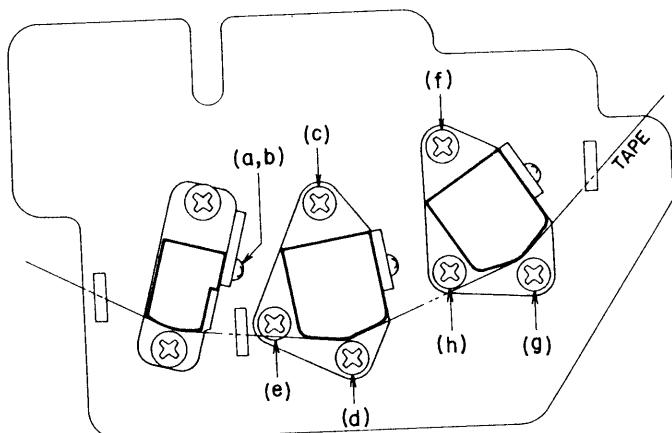

Fig. 10
1. HEAD HEIGHT ADJUSTMENTS (See Figs. 10, 11)
(See Figs. 10, 11)
3. HEAD AZIMUTH ALIGNMENT ADJUSTMENTS (See Figs. 10, 11)